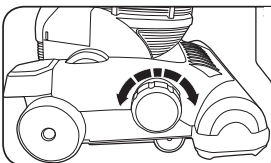

Fig. 6
2. Press the dust container empty button to open the lid of the container, releasing the contents into a trash bin (Fig. 6).